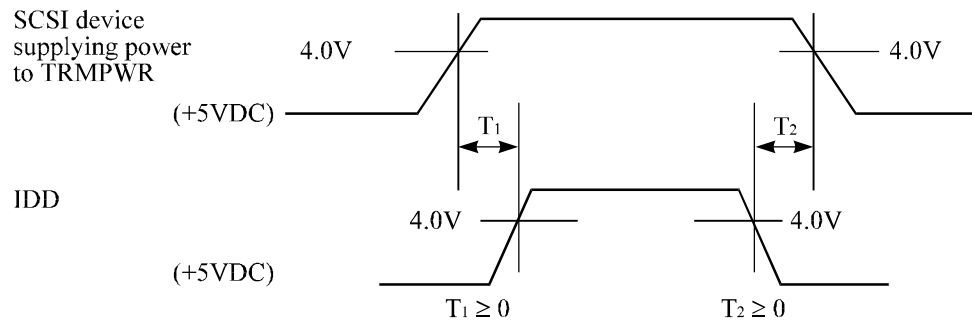

Figure 4.12 Power on/off sequence (1)
(3) Power on/off sequence
- b) In a system which uses the terminating resistor power supply signal (TERMPWR) on the SCSI bus, the requirements for +5 VDC given in Figure 4.12 must be satisfied between the IDD and at least one of the SCSI devices supplying power to that signal.